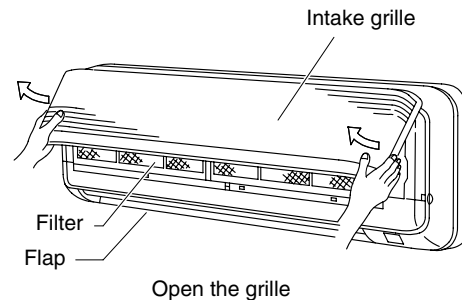

Fig. 3-64
- (1) Lift up on both sides of the air-intake grille to open it. (Fig. 3-64)
- (2) Remove the filter. (Fig. 3-64)